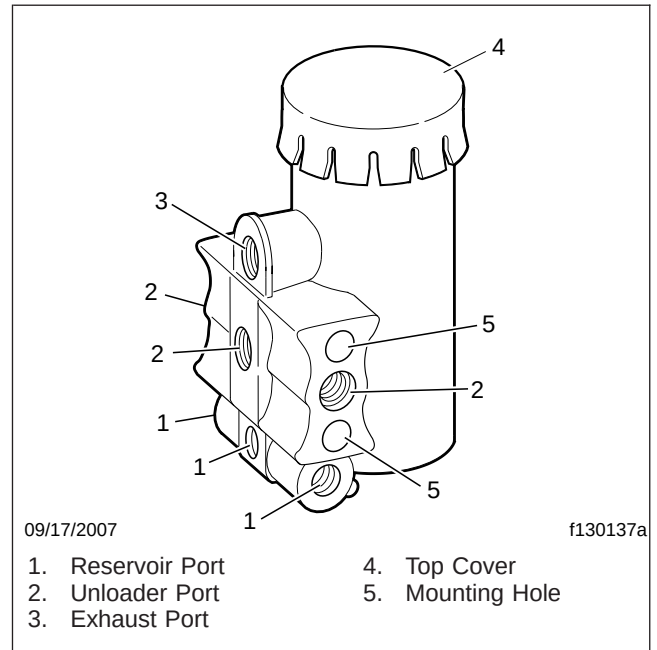

Fig. 1, Air Governor, Adjustable Model Shown
- 6.1 With the compressor in the cut-in position, apply a soap solution to the air governor exhaust port. See **Fig. 1**. A slight bubble leakage is permitted. Excessive leakage indicates that the inlet valve or lower piston O-ring is worn out.
- 6.2 With the compressor in the cut-out position, apply a soap solution to the air governor exhaust port. See **Fig. 1**. A slight